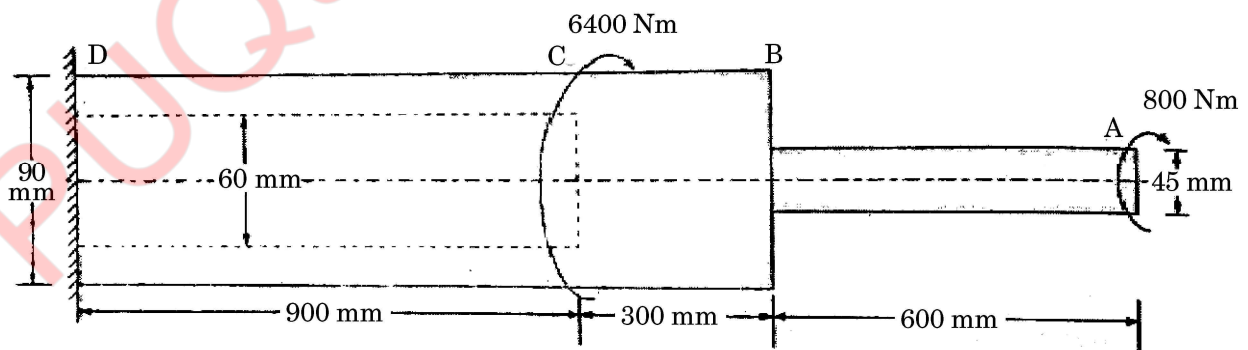

Fig. 6
- (b) A uniform rod AB has  $\sigma_y = 250$  MPa and  $E = 200$  GPa. Collar D moves along the rod and has a speed of 3 m/s. It strikes a small plate attached to the end B of the rod as shown in Fig. 6. Using FOS = 4, determine the largest allowable mass of the collar if the rod is not to be permanently deformed. [6]
6. (a) Fig. 6 shows a horizontal shaft ABCD fixed to a rigid base at D and subjected to torques. A hole 60 mm in diameter has been drilled into the part CD of the shaft. Determine the angle of twist at the end A. Take  $G = 7.7 \times 10^4$  MPa. [6]